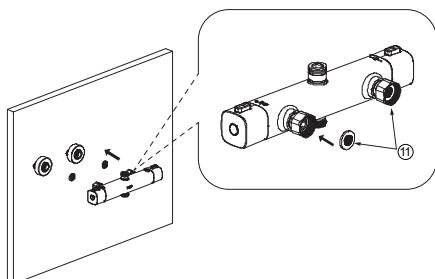
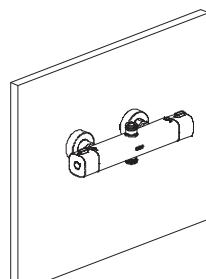

Figure 4
Figure 5
- a) Insert the filter rubber washer ⑪ inside the inlet of the thermostatic shower bar ⑨ (Figure 4). Connect the thermostatic shower bar onto the curved connectors (Figure 5). Left side is hot water and right side is cold water.